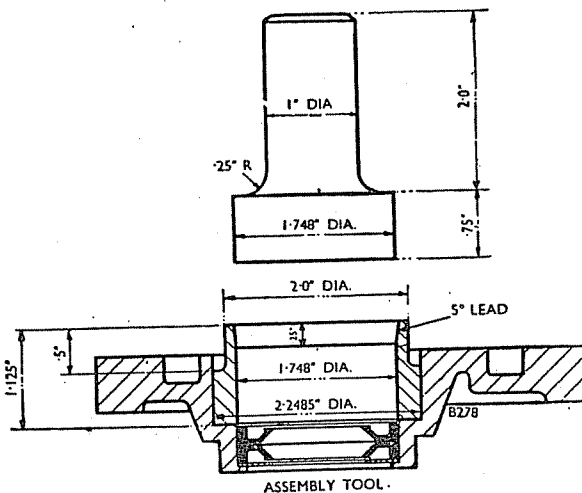
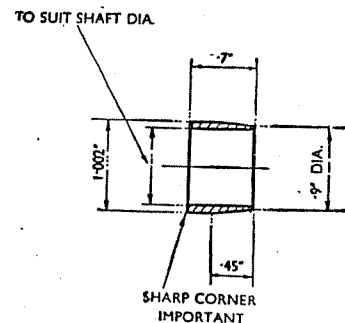

Fig. 38—Method of replacing seals.
Fig. 39.
- (1) The seals should be fitted in the end covers. Figure 38 illustrates the correct method of assembly.
- (2) Slide cam rings on rotor and replace bearings, making certain they butt against the shoulder on the rotor shaft. Drive on shaft collars up to bearings. Check bearings for "tightness". Fit piston rings into grooves in sealing plates, ensuring they seat below bore diameter. Pass sealing plates over bearings and locate them on the cam ring spigots. Replace blades in rotor slots and check for freedom of movement.
- (3) Slide rotor assembly into body.
- (4) Replace sealing plate springs in pockets of end covers, using grease to hold them in position.
- (5) Smear end cover joints with grease and "stick" them on covers in their correct positions.
- (6) Place the large seal back plates in end cover making certain they drop to the bottom of the ball race seats.
- (7) With the rotor in position in the body, the end covers should be slipped over the shaft ends and pushed home, taking care that the sealing plate peg fits in one of the sealing plate springs. During this operation a protecting sleeves, as shown in Figure 39, must be used to prevent the seal edges being damaged by the seal collars.
- (8) Replace end cover bolts and tighten. Check rotor to ensure free rotation.
- (9) Replace keys and couplings.
- (10) The snifter valve is assembled and set to operate at a pressure of 25 inches of mercury, in the following manner: